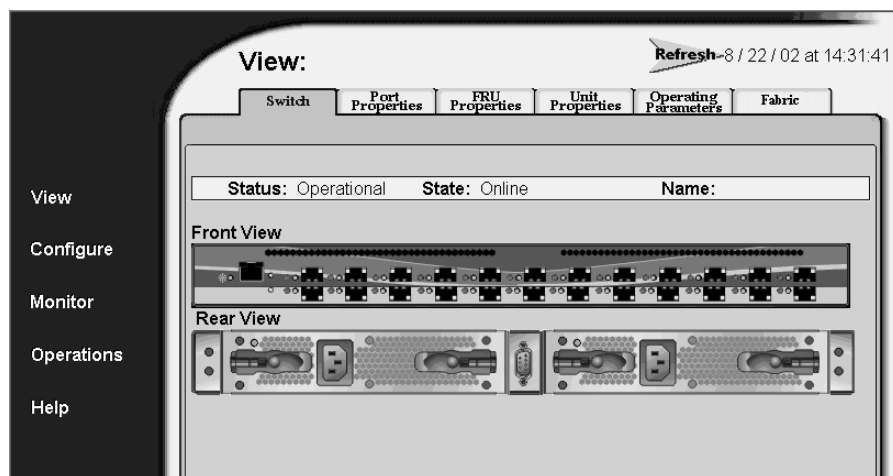

Figure 3: Switch Tab View
4. Type the user name and password. The EWS interface opens with the **View** page displayed, as shown in Figure 3.